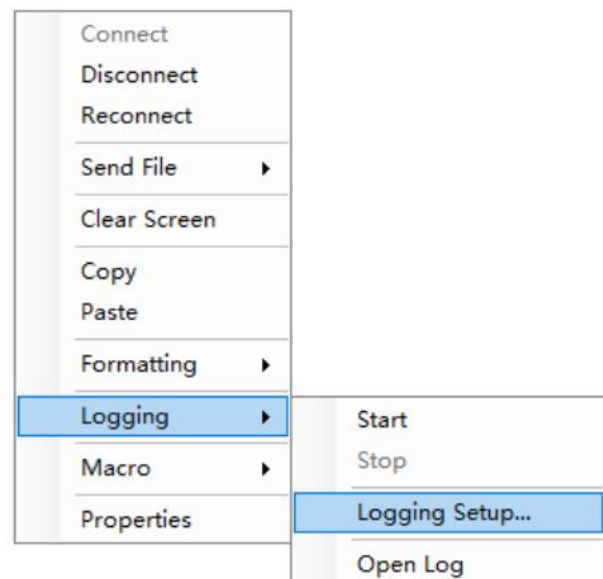

Figure 9.22 Foxterm Data Storage Settings Diagram
6. For data saving, right-click in the blank interface to bring up the session menu as shown in Figure 9.22, select "**Logging Setup**", and choose the storage path.